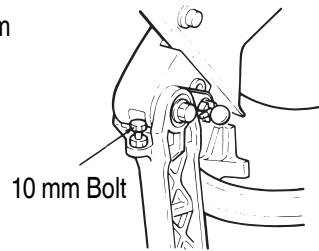

Fig. 6
4. Handle position adjustment (**Fig. 6**)
During cutting operation, adjusting the upper limit adjustment bolt according to workpiece height as illustrated in **Fig. 6** reduces the up-down handle motion range for a higher operating efficiency. Loosen the 10 mm lock nut which fixes the upper limit adjustment bolt and move the handle up and down to allow the adjustment bolt to be set in a position fit to the height of the workpiece to be cut. Then fix the 10 mm lock nut.